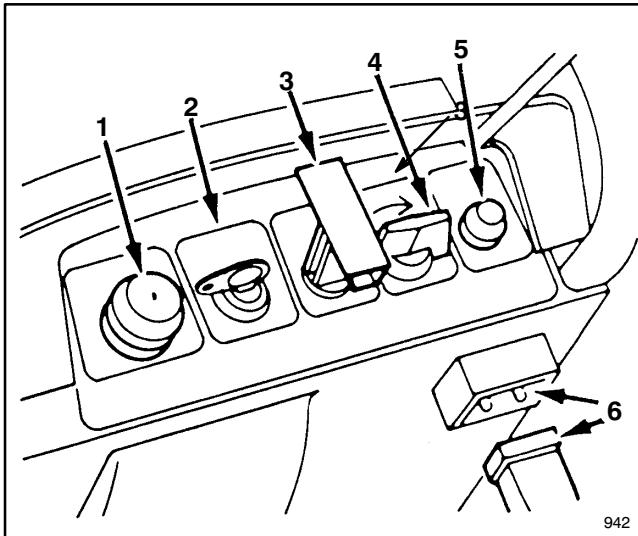

Figure 11
1. CONTROLS—All controls are mounted on the control panel (Fig. 11). They consist of a primer, ignition switch, recoil starter, choke and electric start button.